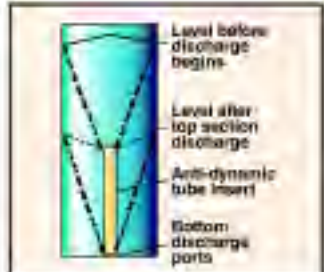

FIGURE 7. This tube effectively divides the silo in two halves, reducing overpressure.
Reducing dynamic overpressures. Many failures in shallow bottom silos can be attributed to difficulty in predicting dynamic overpressures during funnel flow. Dynamic overpressures occur at the location of effective transition where the switch occurs from cylindrical to arched stress field. By inserting a tube, which is open at both ends and has discharge ports at the bottom, the silo is effectively divided into two halves (Figure 7). The overpressures on the wall can be significantly reduced with the use of such anti-dynamic tube inserts. The diameter and height of the tube depends on the material flow properties (6).